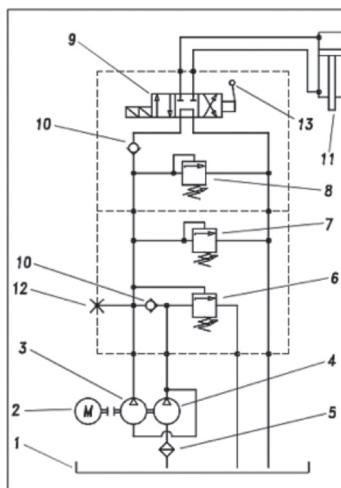

Fig 5
- 7) hydraulic control unit (see diagram Fig. 5) of the cylinder, comprising the following: